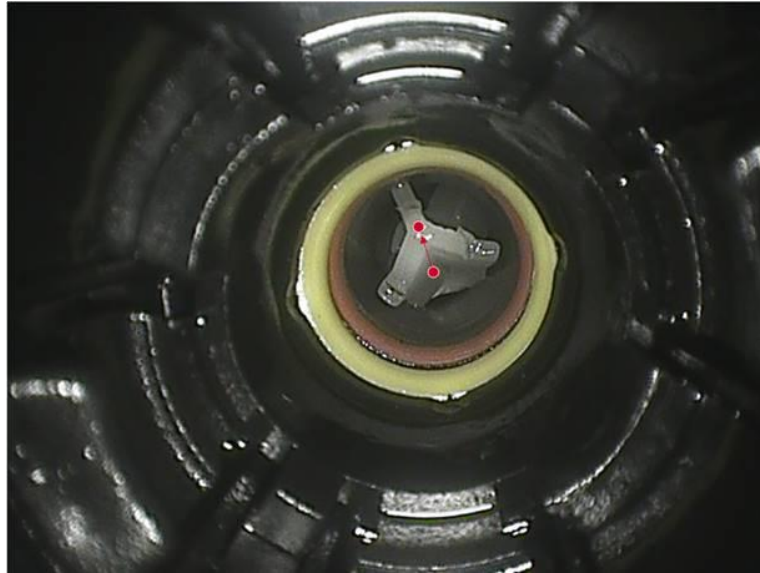

Figure 2. Check the valve stem fit.
2. A non-concentric fit of valve stem can be a further indication of internal component damage. Compare with Figure 2.